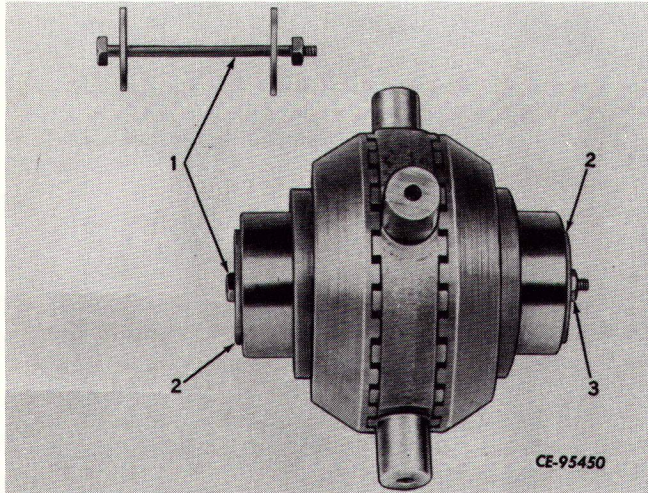

Figure 6-62
◆ CAUTION: TO PREVENT ANY POSSIBLE INJURY DURING DISASSEMBLY OF THE NoSPIN DIFFERENTIAL, INSERT A BOLT (1, FIG. 6-62) THROUGH THE CENTER OF THE NoSPIN UNIT, WITH A FLAT WASHER (2) ON EACH END. SECURE WITH A NUT (3) INSTALLED FINGER TIGHT.